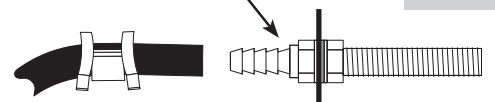

fig. 13
9. Slide a clamp onto the air line and push the air line over the fitting, covering all the barbs. With pliers slide the air line clamp forward until it fully covers the barbed section (see Fig. 13).